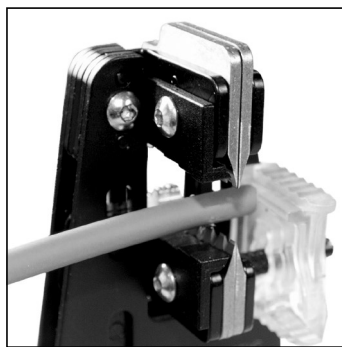

Fig. 3
4. Close the tool. As the tool closes, blades (5 to 8) are brought against the inserted cable, and its insulation is cut and stripped away (Fig. 3).